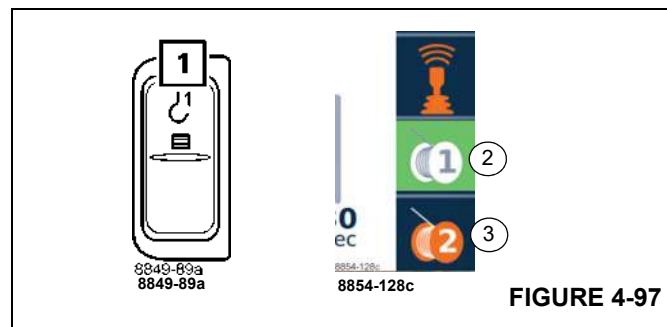

FIGURE 4-97
- Symbol (3), (Figure 4-97) must be red.
- Press the button on the right armrest (1), (Figure 4-97) once.
- Symbol (2), (Figure 4-97) is green when the main hoist is switched on.